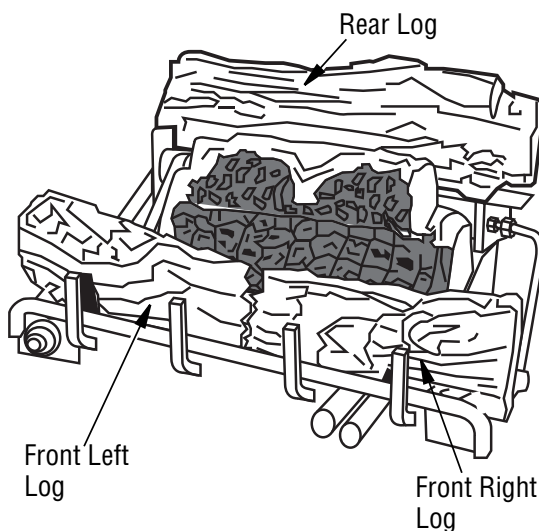

Figure 25 - Installing Logs
3. Place front left and right logs and rear log as shown in **Figure 25**.